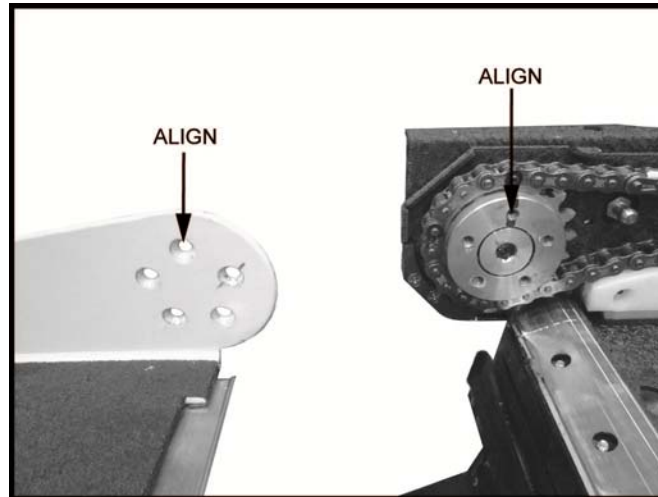

FIGURE 2-19: RAMP TRAY ALIGNMENT (LH SIDE SHOWN)
- a. Refer to **Figure 2-19**. Align ramp tray hole with sprocket hole pattern.